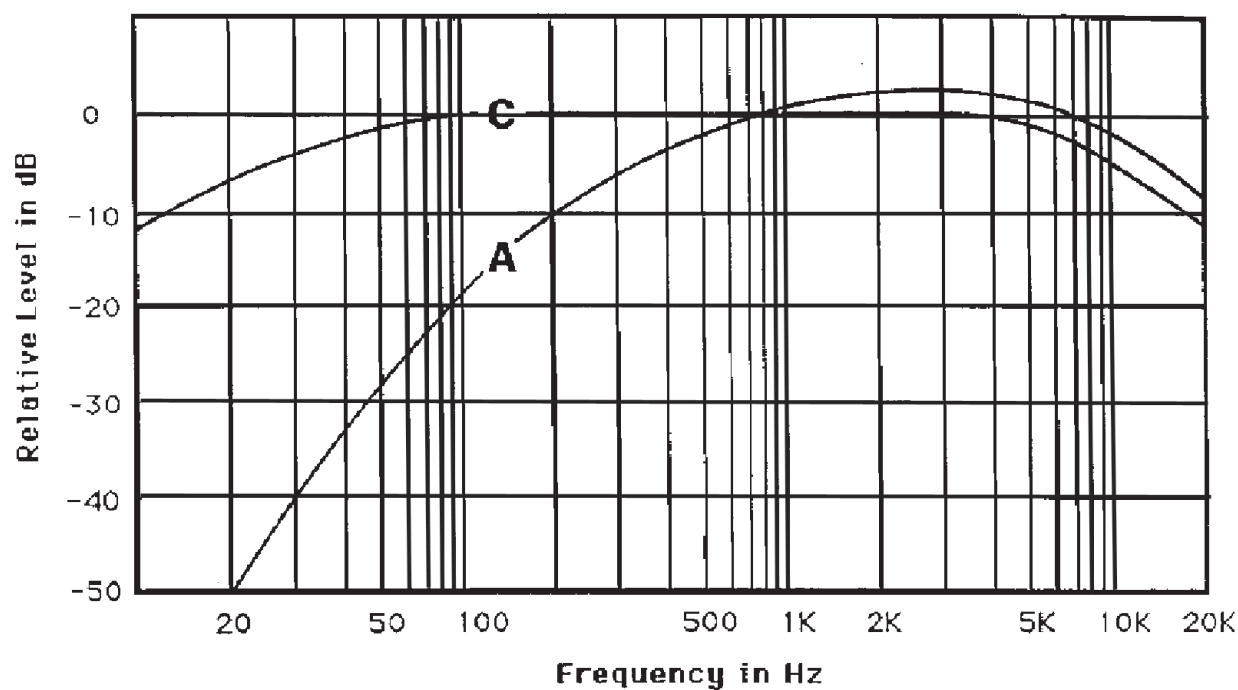

FIGURE 7 - WEIGHTED FILTER: A vs. C WEIGHTING
- B. Ears and meters are not directly interchangeable. They neither sample nor process the sound in a completely analogous manner (see Figure 7).